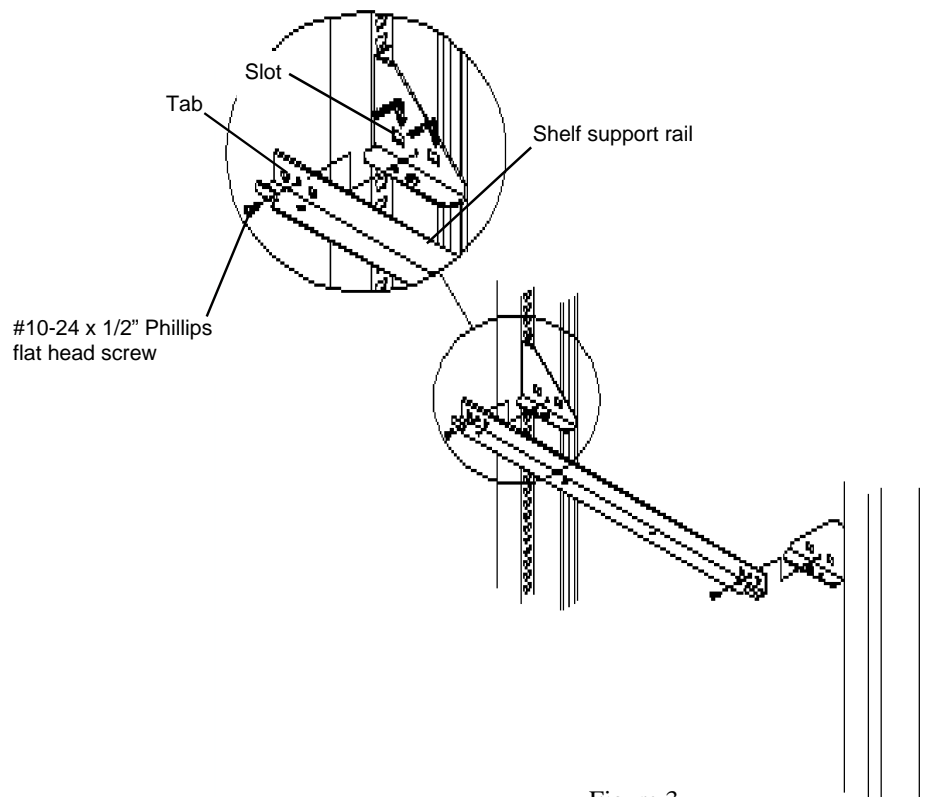

Figure 3
3. Connect one **Shelf Support Rail** to each pair of Corner Brackets. The hooks on the Rail must engage the rectangular slots in the Brackets. See **Figure 3**.
4. Secure the Support Rails to the Corner Brackets by installing one #10-24 x 1/2" Phillips flat head self tapping screw into each Corner Bracket. See **Figure 3**.